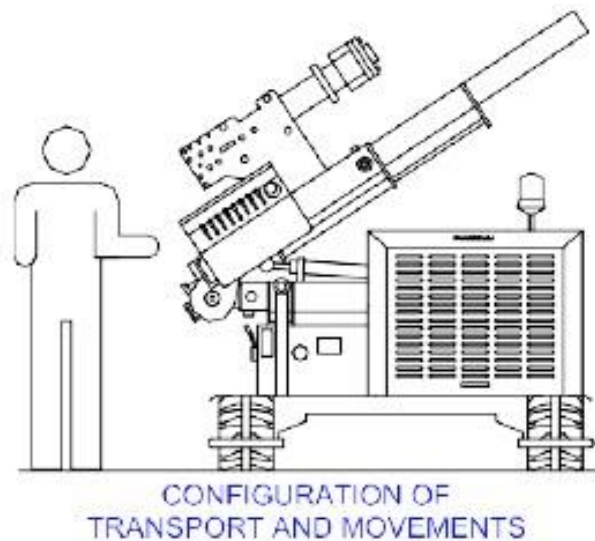

Fig.20 Configuration of transport and movement
- To make the transporting phase easier, it is necessary that the machine assumes the transport configuration, as showed in figure 20, and then the engine has to be switched off